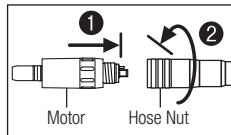

Fig. 2
- 1) Insert the motor correctly into the hose connector and tighten the hose nut (Fig. 2).